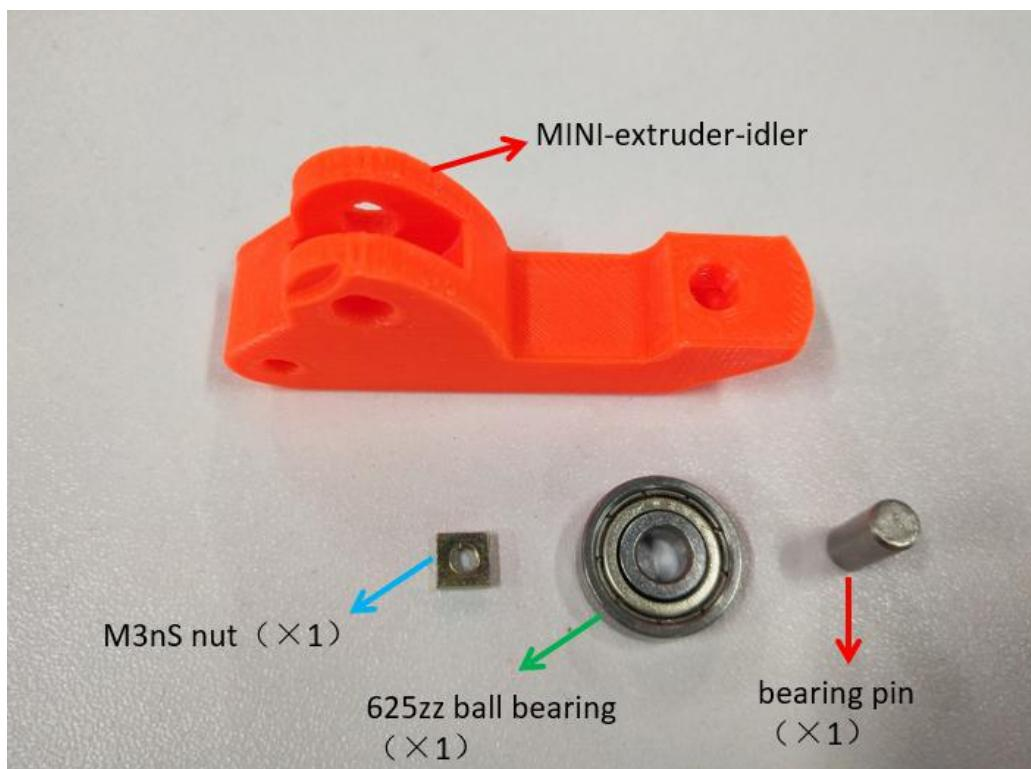

Figure 2.2.1
**Step 2-2-1:** As shown in Figure 2.2.1, prepare the materials and check whether the quantity of materials is correct, and prepare for the next installation.